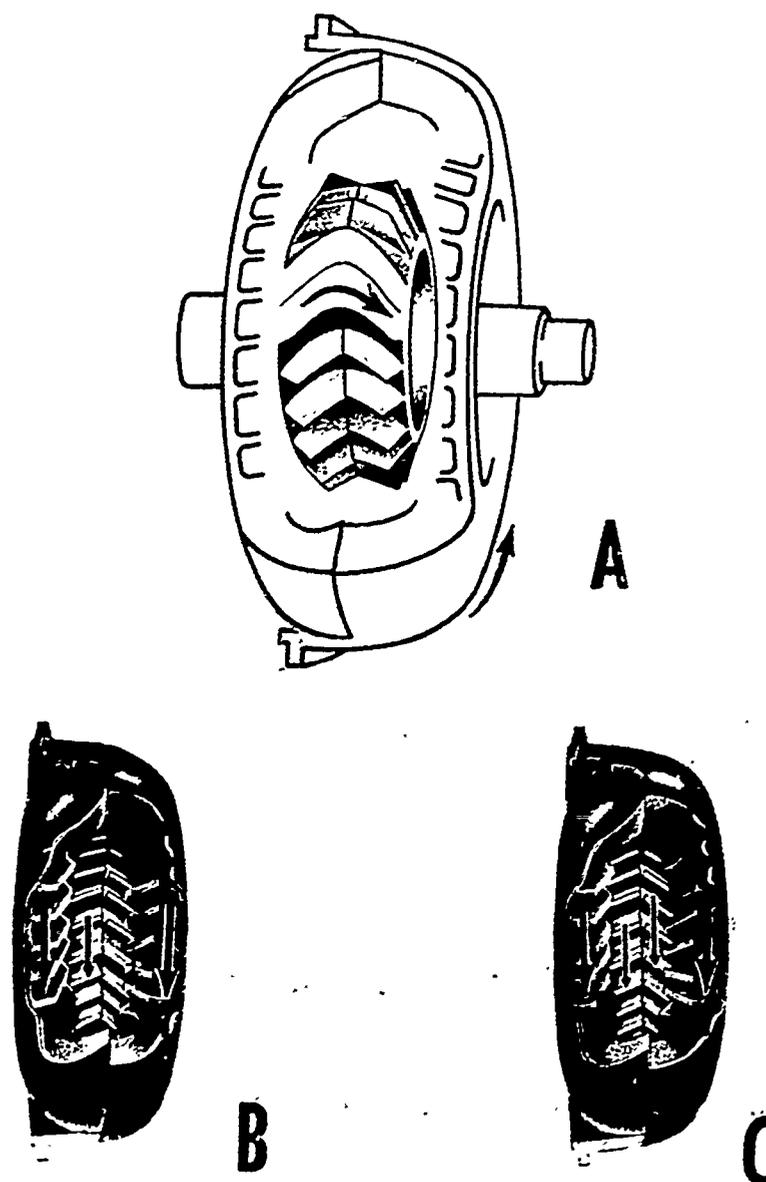

Fig. 17 Torqmatic converter operation
Figure 17 shows the three phases of torqmatic operation with a two stage stator.
The twin dish torque converter shown in Figure 17 has three basic parts. Part (A), the impeller or pump, is driven by the engine shaft and has a ring of metal blades which turn in the fluid with which the converter is